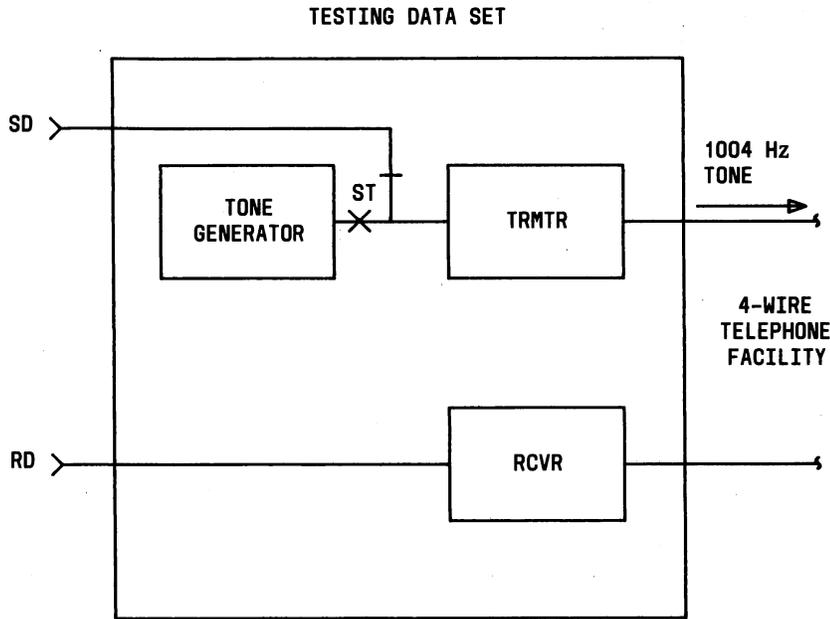

Fig. 24—1004 Hz Test Tone
3.75 This test (Fig. 24) can only be performed on data sets in the maintenance mode of operation. The 1004 causes the data set to continuously transmit a 1004 Hz tone at 0 dBm  $\pm 1$  dB on the primary channel.